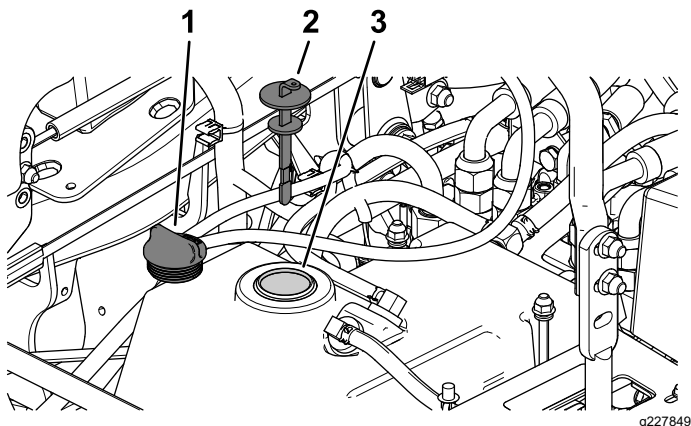

Figure 69
5. Remove the hydraulic-tank cap (Figure 69).
6. Remove the dipstick and wipe it with a clean rag (Figure 69).